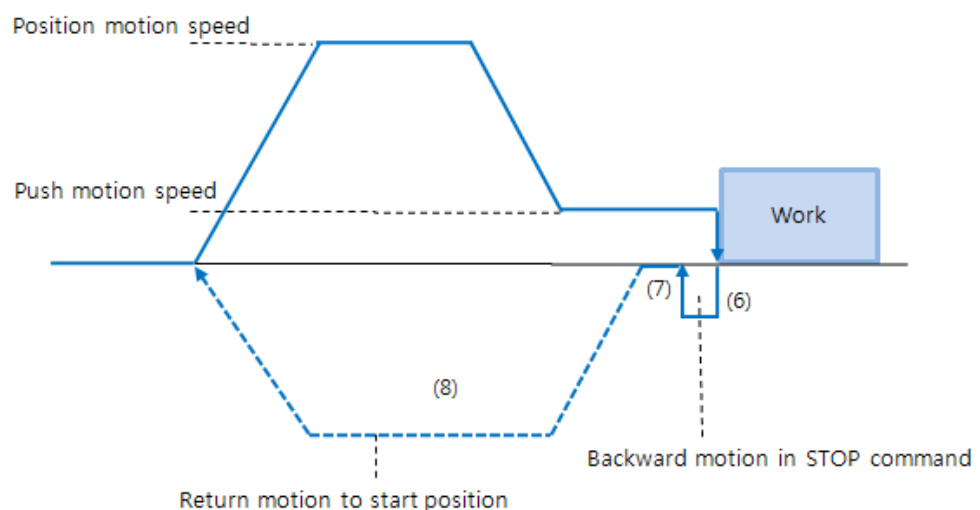

Fig 10.6.2
- ⑥ Additional next step is needed as below diagram (Figure 10.6.2).